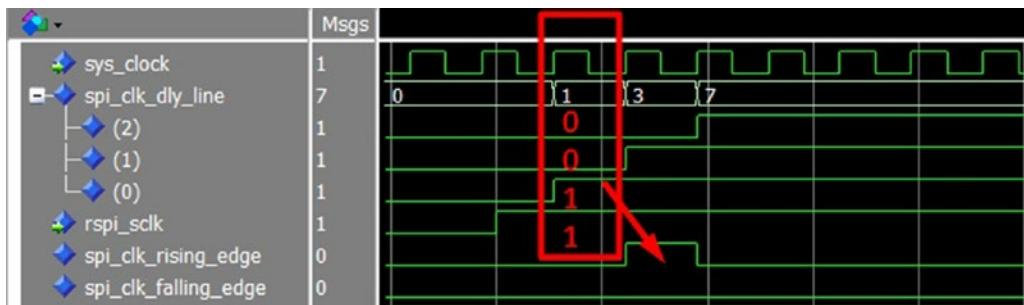

Figure 15-10. Rising edge detection simulation
On line 45, we use a 3-bit shift register (spi_clk_dly_line) to sample the rspi_sclk by sys_clock. When the change of the rspi_sclk is sampled and stored in the shift register we can do all the clock edge detection logic in sys_clock domain. Figure 15-10 shows that the rising edge detection pulse is delayed two sys_clock clock cycles. It is expected when we use a fast clock to sample a slow clock and do the clock edge detection. The spi_clk_dly_line (2), (1), and (0) are storing the history of the rspi_sclk. We defined the rising edge as when (2) and (1) are logic low and at the clock cycle (0) and rspi_sclk are logic high.